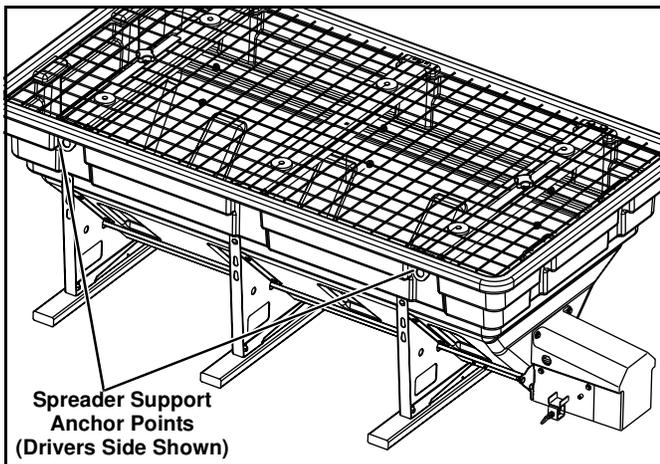

Figure 1-10
3. Using suitable tie-down straps or chain, secure the spreader to the vehicles factory installed anchor points using two tie-down brackets on each side of the spreader hopper. (See Figure 1-10)